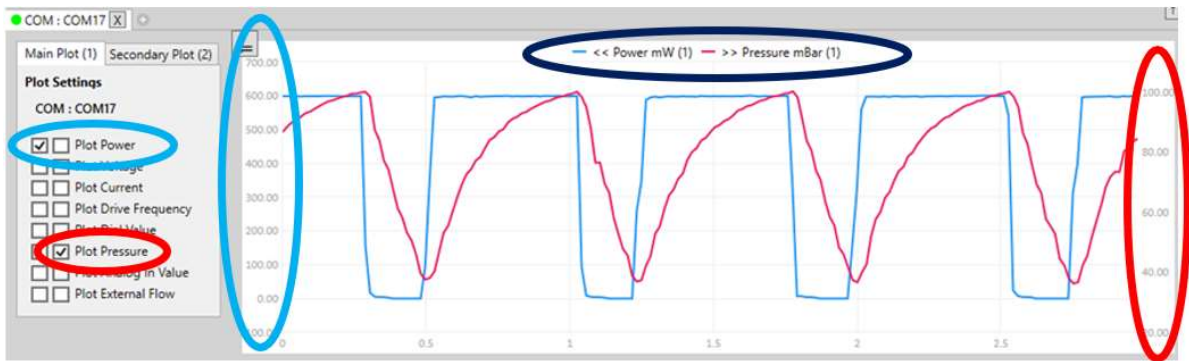

Figure 51 Plot with two axis. Plot power on the left Y axis in blue and pressure on the right Y axis in red.
- Tick the check boxes on the left to confirm the values to be plotted. The left most column of tick boxes corresponds to plotting the data on the left Y axis and the right hand column of tick boxes corresponds to plotting the data on the right Y axis (as shown in Figure 51).